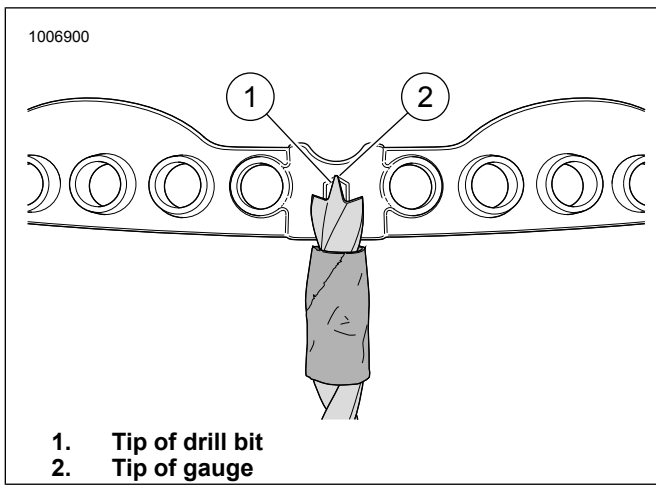

Figure 2.
6. Figure 2 Align tip of drill bit (1) with tip of gauge (2) and wrap masking or duct tape around the flute. The tape will be used as a stop.